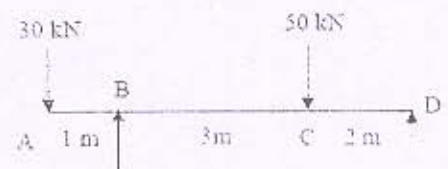

Figure 9
- Draw shear force and bending moment diagrams for the beam shown in Figure 9.